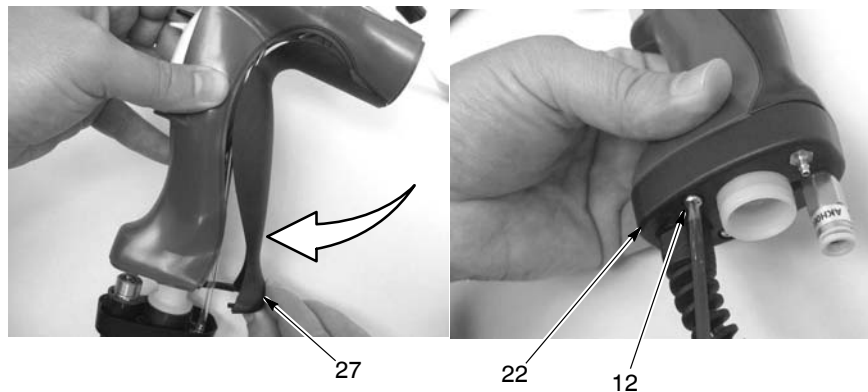

Figure 8 Installing Ground Pad and Handle Base
8. See Figure 8. Hook the ground pad (27) behind the locator tabs on the rear of the handles and rotate the ground pad into position against the handle assembly.
9. Push up on the handle base (22) to seat it in the handle, then secure the handle base to the handle assembly with the two M3 x 20 screws (12). Hand tighten the screws only.